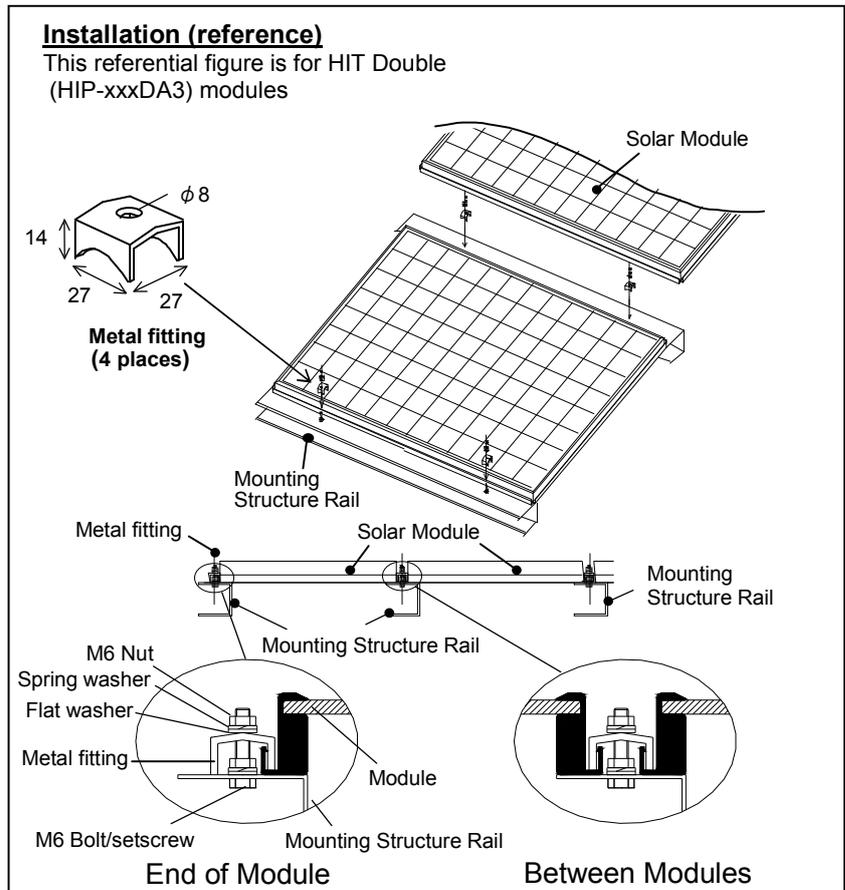

Figure 1. Installation
- SANYO recommends (but does not require) the installation method and mounting profile shown in Figure 1.